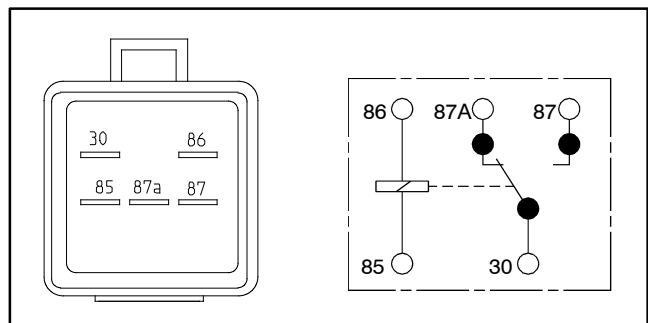

Figure 54
4. Using a multimeter (ohms setting), measure coil resistance between terminals 85 and 86 (Fig. 54). Resistance should be between **70 and 90 ohms**.